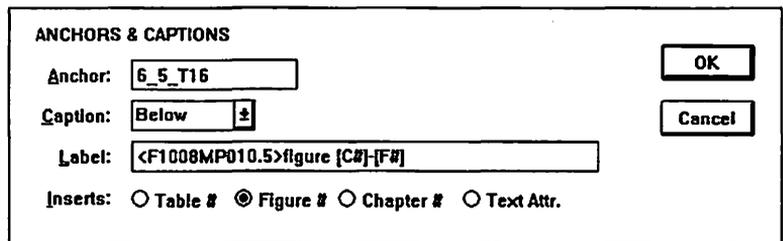

FIGURE 10-3 Each frame created for an illustration was given a unique anchor name based on the serial number of the tip to which it referred.
4. We pasted a frame back in from the clipboard, using the PASTE FRAME command under the Edit menu (or by pressing the Insert Key). After referring to the printed list of captions, we selected the ANCHORS & CAPTIONS command under the Frame menu and entered the anchor name (based on the caption's serial number) in the Anchor text entry box (see Figure 10-3).